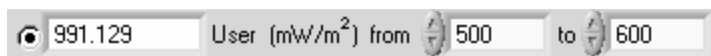
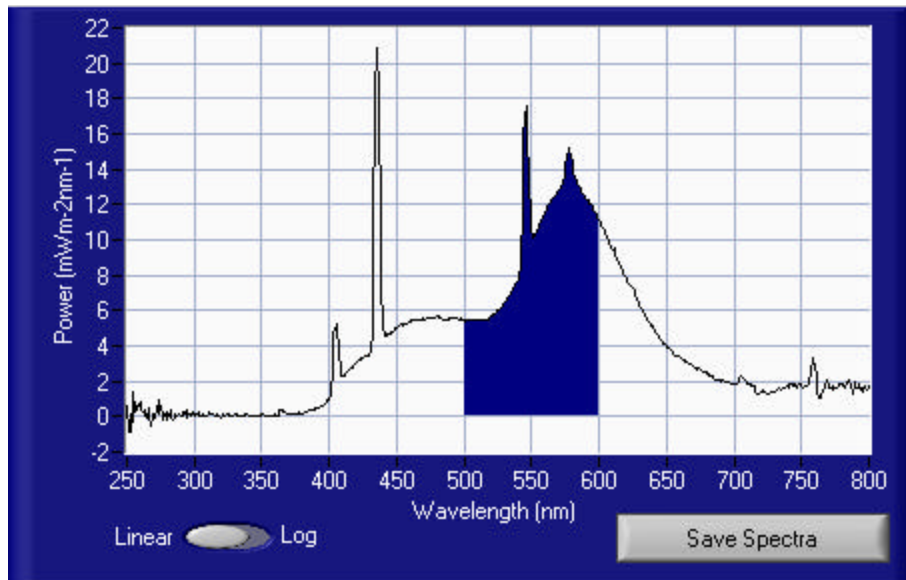

Figure 3.4: Definition of a customer-selected integration range
Figure 3.5: Shaded display of a selected integration range.
- 3.5.9 Once the calibration file has been chosen press the "Power Spectra" button. A power spectrum will then appear on the Display graph. On the left is the power (mW/m^2) in the UVA, UVB, UVC, Visible, and user-selected spectrum (Figure 3.4). These spectra can be viewed on the display graph by checking the radio buttons to the left of the numbers (Figure 3.5).